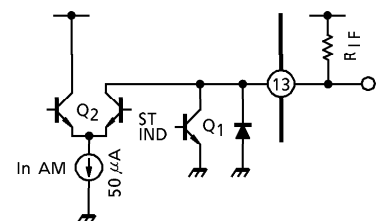

Fig.5 Internal circuit of pin¹³
- The terminal of pin¹³ is built in stereo indicator function and modulated AM IF signal output. In AM mode, R_{IF} ($3k\Omega$ or less) should be connected between V_{CC} and pin¹³, or pin¹³ should be connected to V_{CC} directly. (Fig.5) In case that $R_{IF} > 3k\Omega$ or pin¹³ is opened, this IC doesn't operate normally in AM mode. Because transistor Q_2 is saturated.